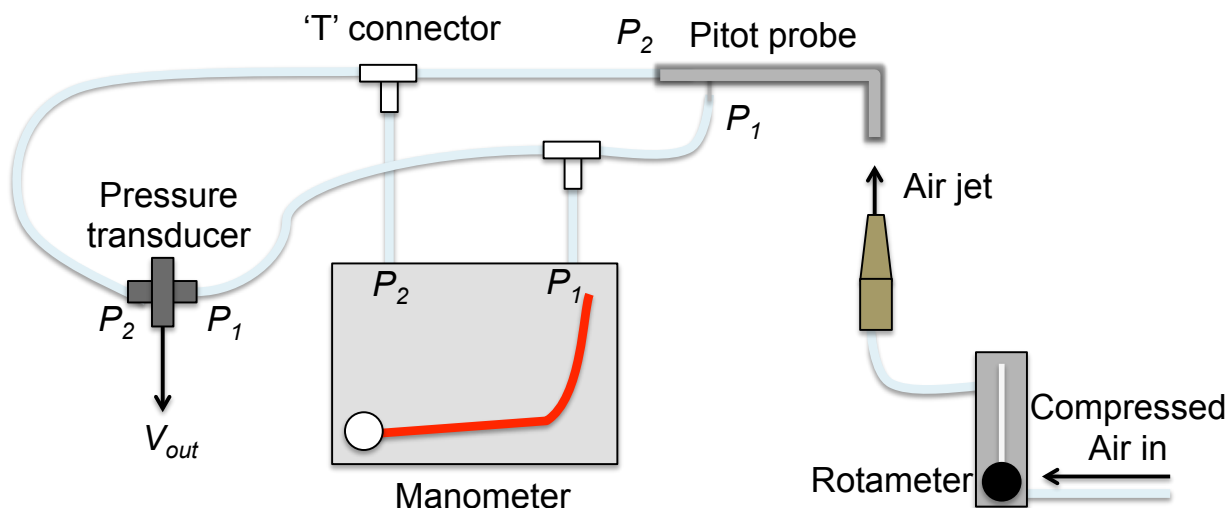

Figure 3 – A schematic of the experimental setup for calibrating the capacitive pressure transducer and measuring airspeed with the Pitot probe.
Shown in Figure 3 is a schematic of the overall experimental set-up. As you calibrate the pressure transducer, you will simultaneously measure the airspeed of a jet as a function of flow rate. Theoretically, the average velocity $\langle u \rangle$ is related to the flow rate Q by the equation
6. The tubes from the transducer should be connected to a couple of ‘T’s, which split the gas flow between the Pitot probe and manometer. Connect the other tubes from the ‘T’ to the manometer and Pitot probe, as shown in Fig. 3.
14. Use Bernoulli’s Eq. to calculate the velocity of the air jet based on the measured pressure differential. Make a plot of the velocity in m/s as a function of the flow rate in m^3/s . Compare this to the average velocity given by Eq. (3). (Double check that your units are correct!)